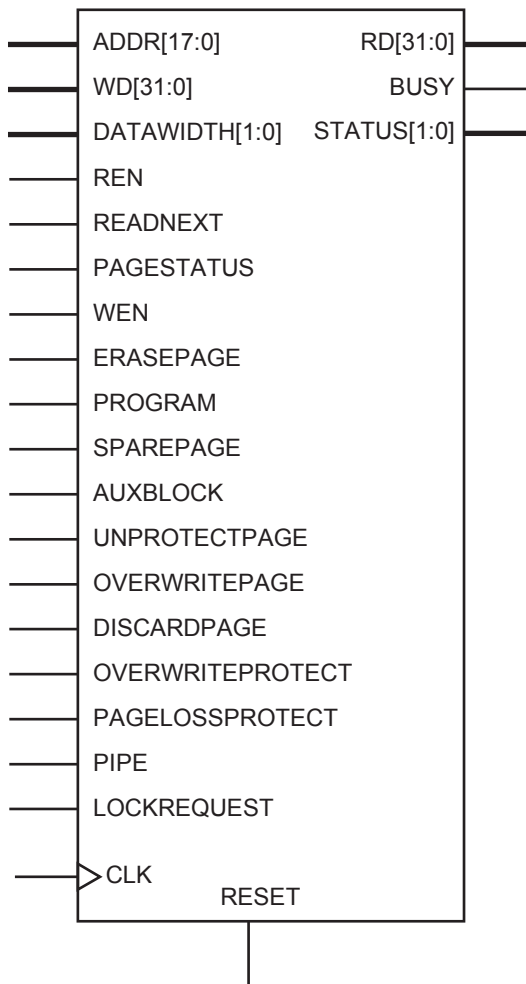

Figure 2-32 • Flash Memory Block
Fusion is the first FPGA that offers a flash memory block (FB). Each FB block stores 2 Mbits of data. The flash memory block macro is illustrated in Figure 2-32. The port pin name and descriptions are detailed on Table 2-19 on page 2-42. All flash memory block signals are active high, except for CLK and active low RESET. All flash memory operations are synchronous to the rising edge of CLK.